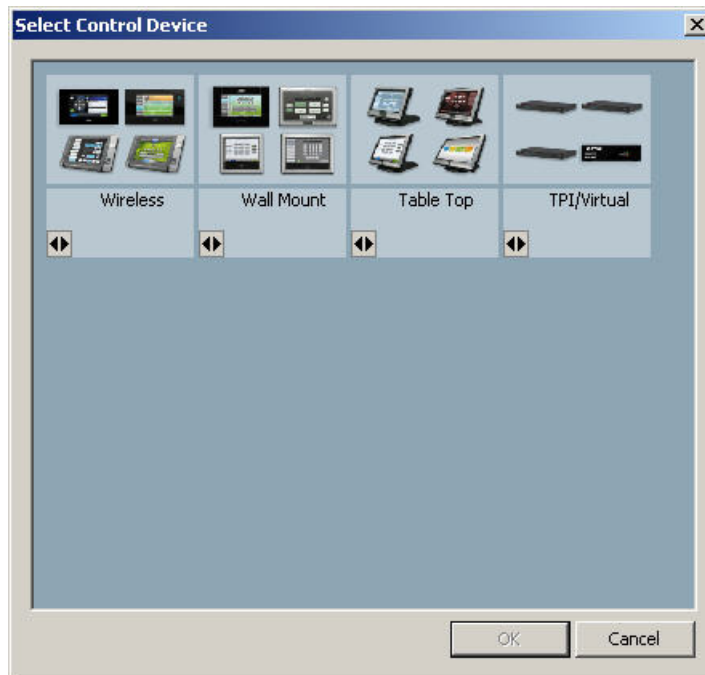

FIG. 139 Select Control Device dialog
3. Select the type of Touch Panel to use for the duplicate panel. Click the Browse (...) button to view thumbnails of all supported touch panels in the *Select Control Device* dialog (FIG. 139).